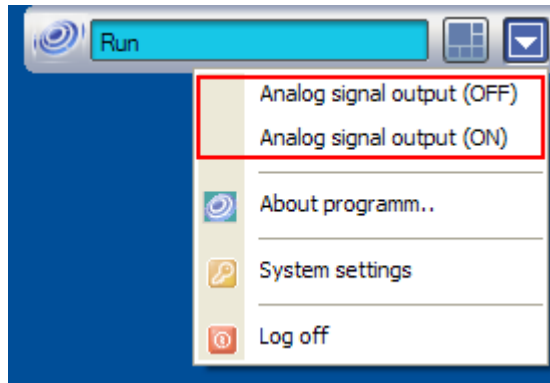

Fig. 4.9-2 Output of video image to the analog monitor (using a macro command)
2. Use a macro command to use this option, select an appropriate box in the “Run” menu of the main control panel (see Fig. 4.9-2).